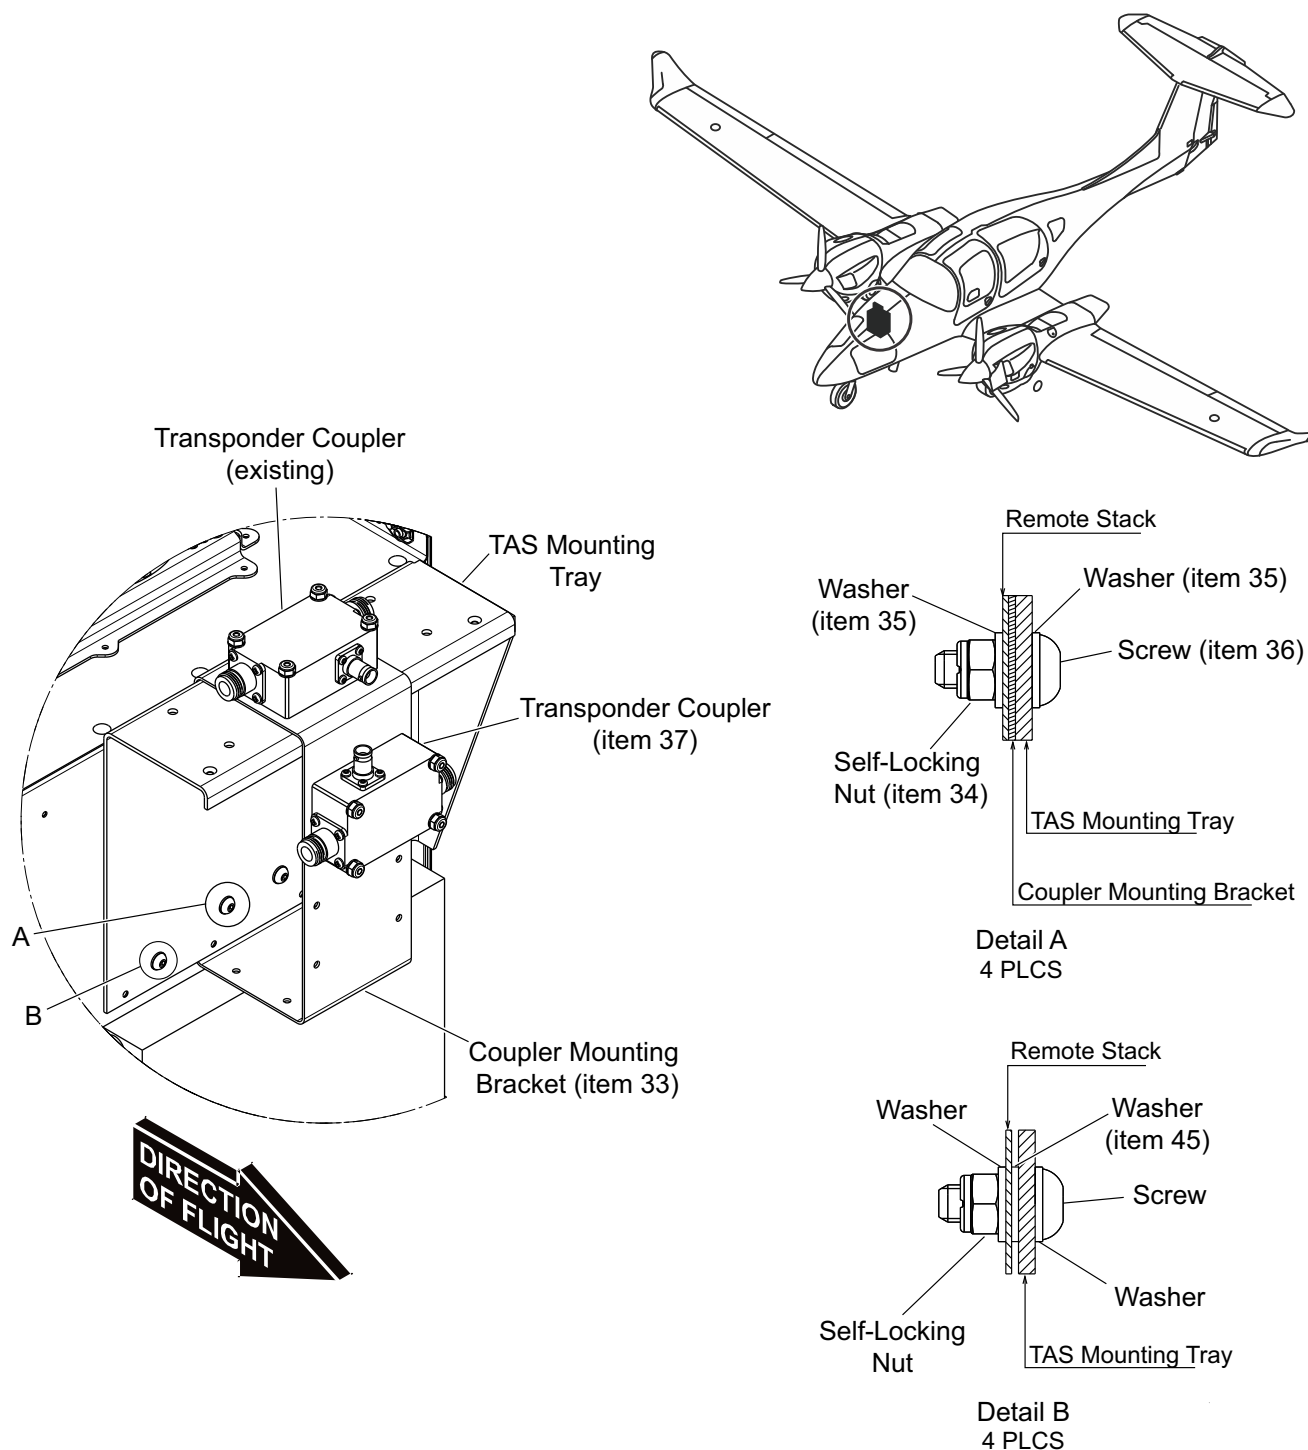

Figure 8.
9.3. Install the screws (item 36), washers (item 35), and self-locking nuts (item 34) which attach the coupler mounting bracket (item 33). Refer to Figure 8.
9.6. With instant adhesive (Loctite 495), attach the washers (item 45) to the backside of the TAS mounting tray. Refer to detail B of the Figure 8.
9.7. With the existing TAS mounting tray screws, washers and self-locking nuts, install the TAS mounting tray. Refer to detail B of the Figure 8.